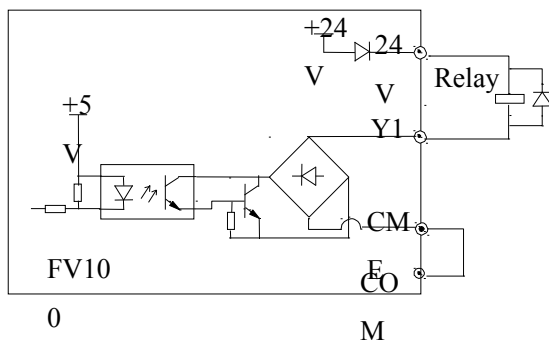
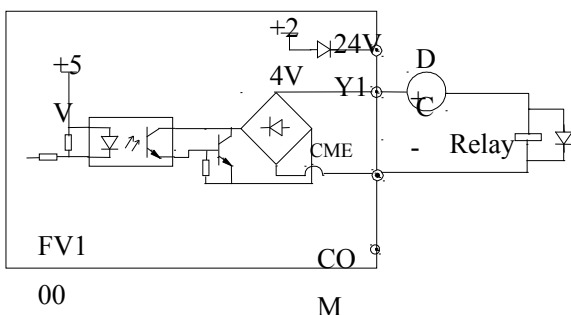

Fig 4-13 Wiring method 1 of multi-function
Fig 4-14 Wiring method 2 of multi-function
1. Multi-function output terminal Y1 can use the internal 24 power supply, the wiring is as shown in Fig.4-13
2. Multi-function output terminal Y1 can use the external 24 power supply too, the wiring is as shown in Fig.4-14.
5. The resistors R in Fig. 4-13 and Fig.4-14 should be removed for 24V input relays, and the resistance of R should be selected according the parameters of relay for non-24V relay.